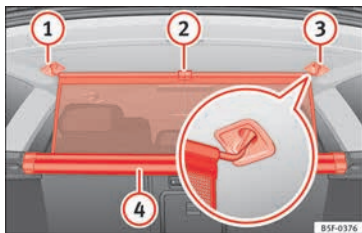

Fig. 166 In the luggage compartment: pulling out and securing the net partition.
- Pull up handle »» Fig. 166 (2) to remove the net from the casing (4).
- Hook in the net partition on the right side (3) (magnified image).
- Hook in the net partition in the left side housing (1) pulling the rod.